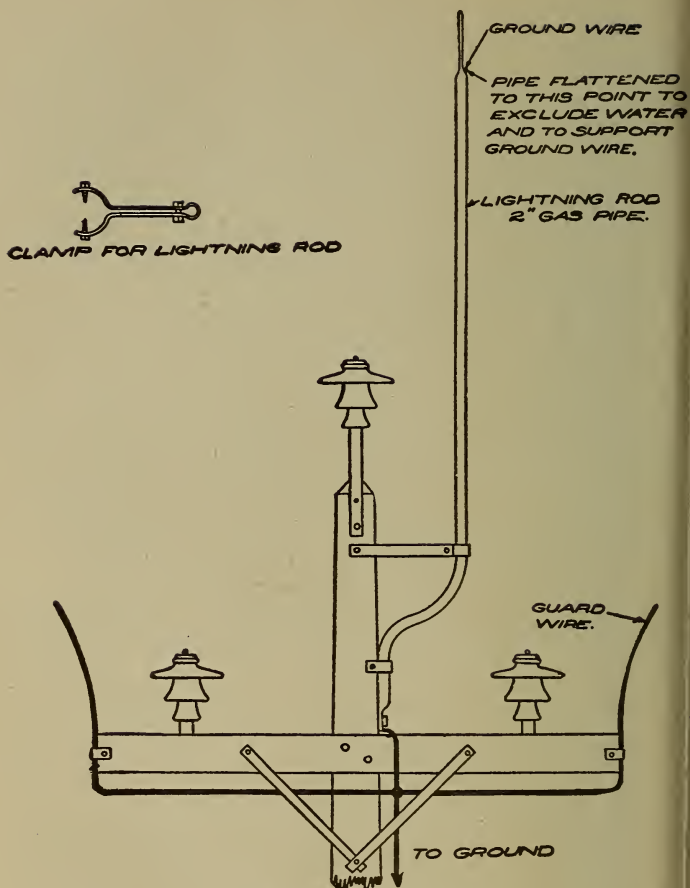

Fig. 55. Side Horns.
*Answer.* As shown in Fig. 55, the ground wire of each pole is extended up beyond the top insulator and a branch run up outside of each side insulator.